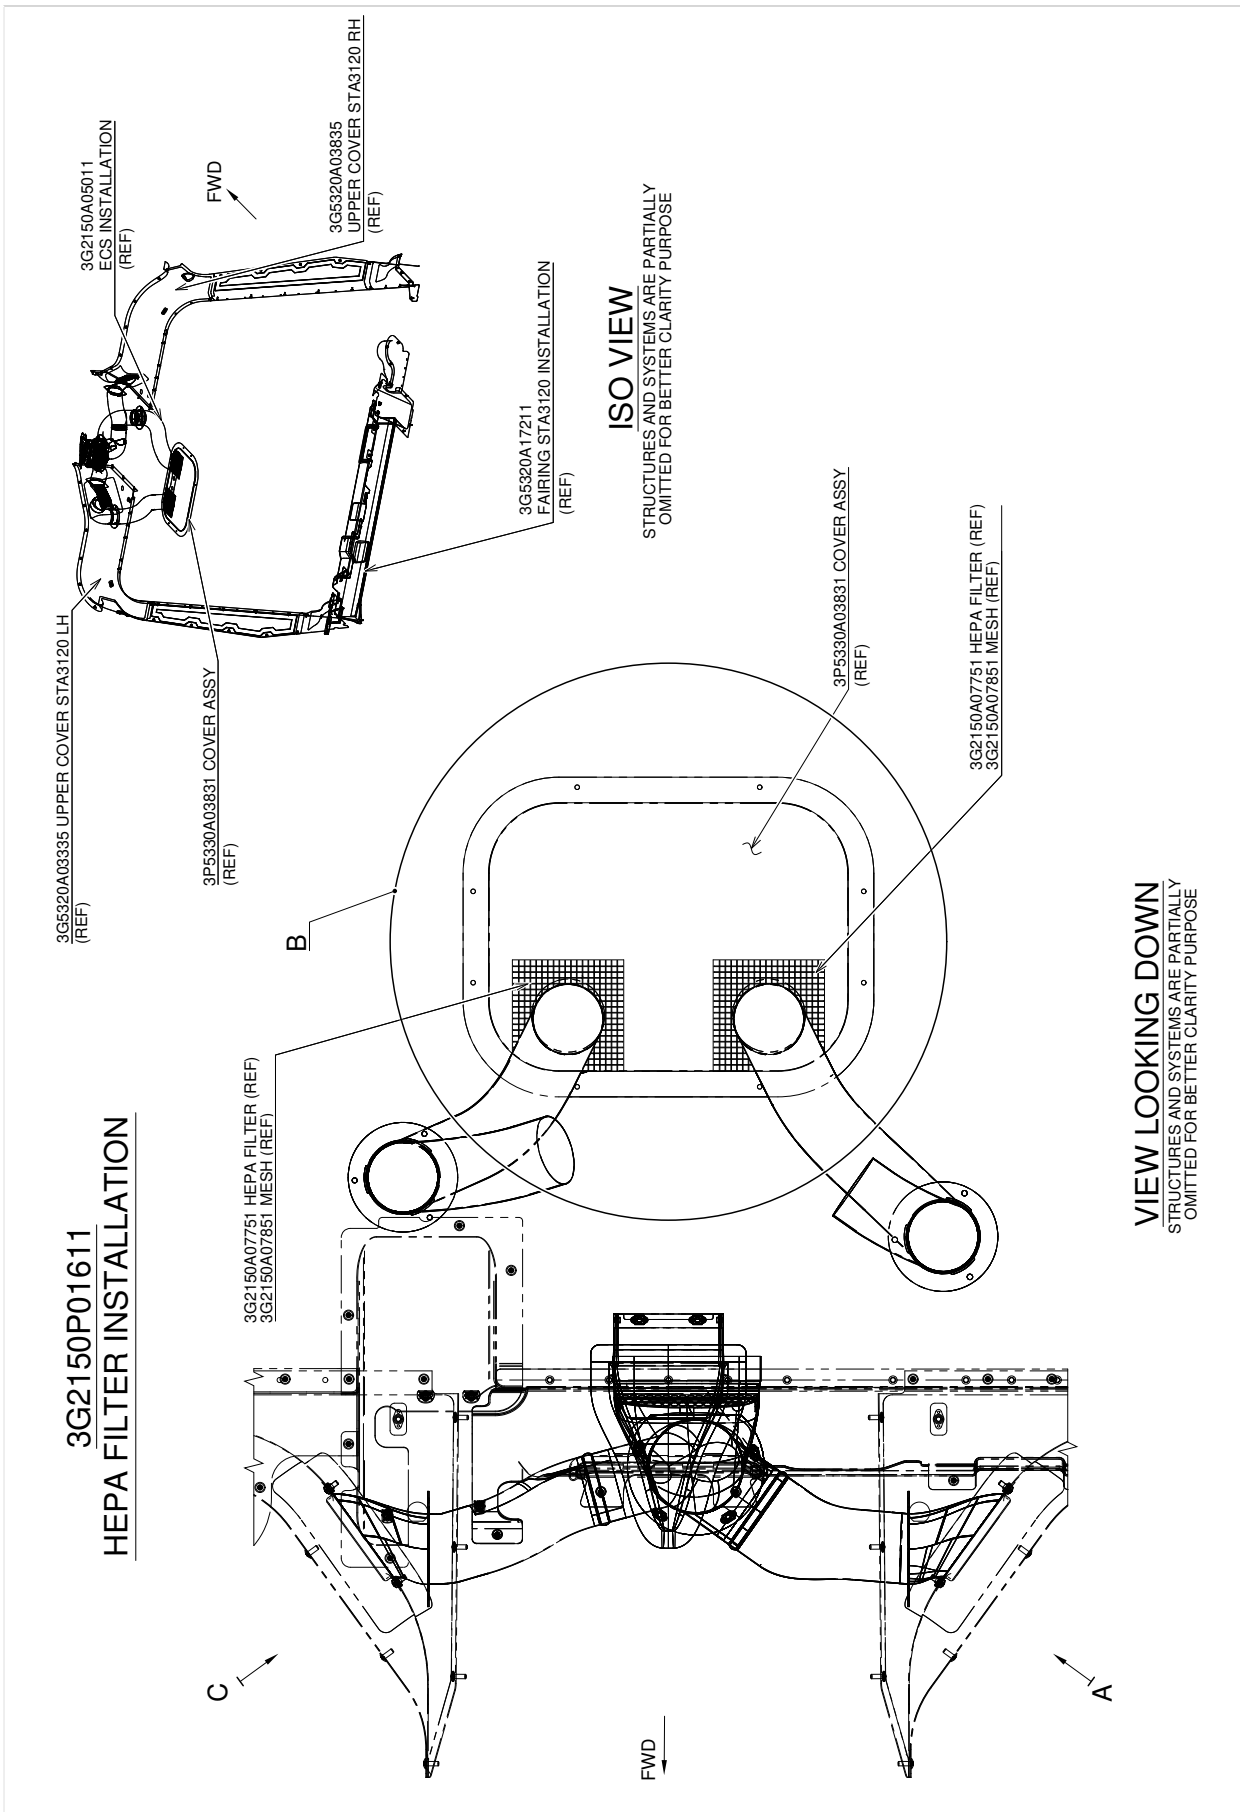
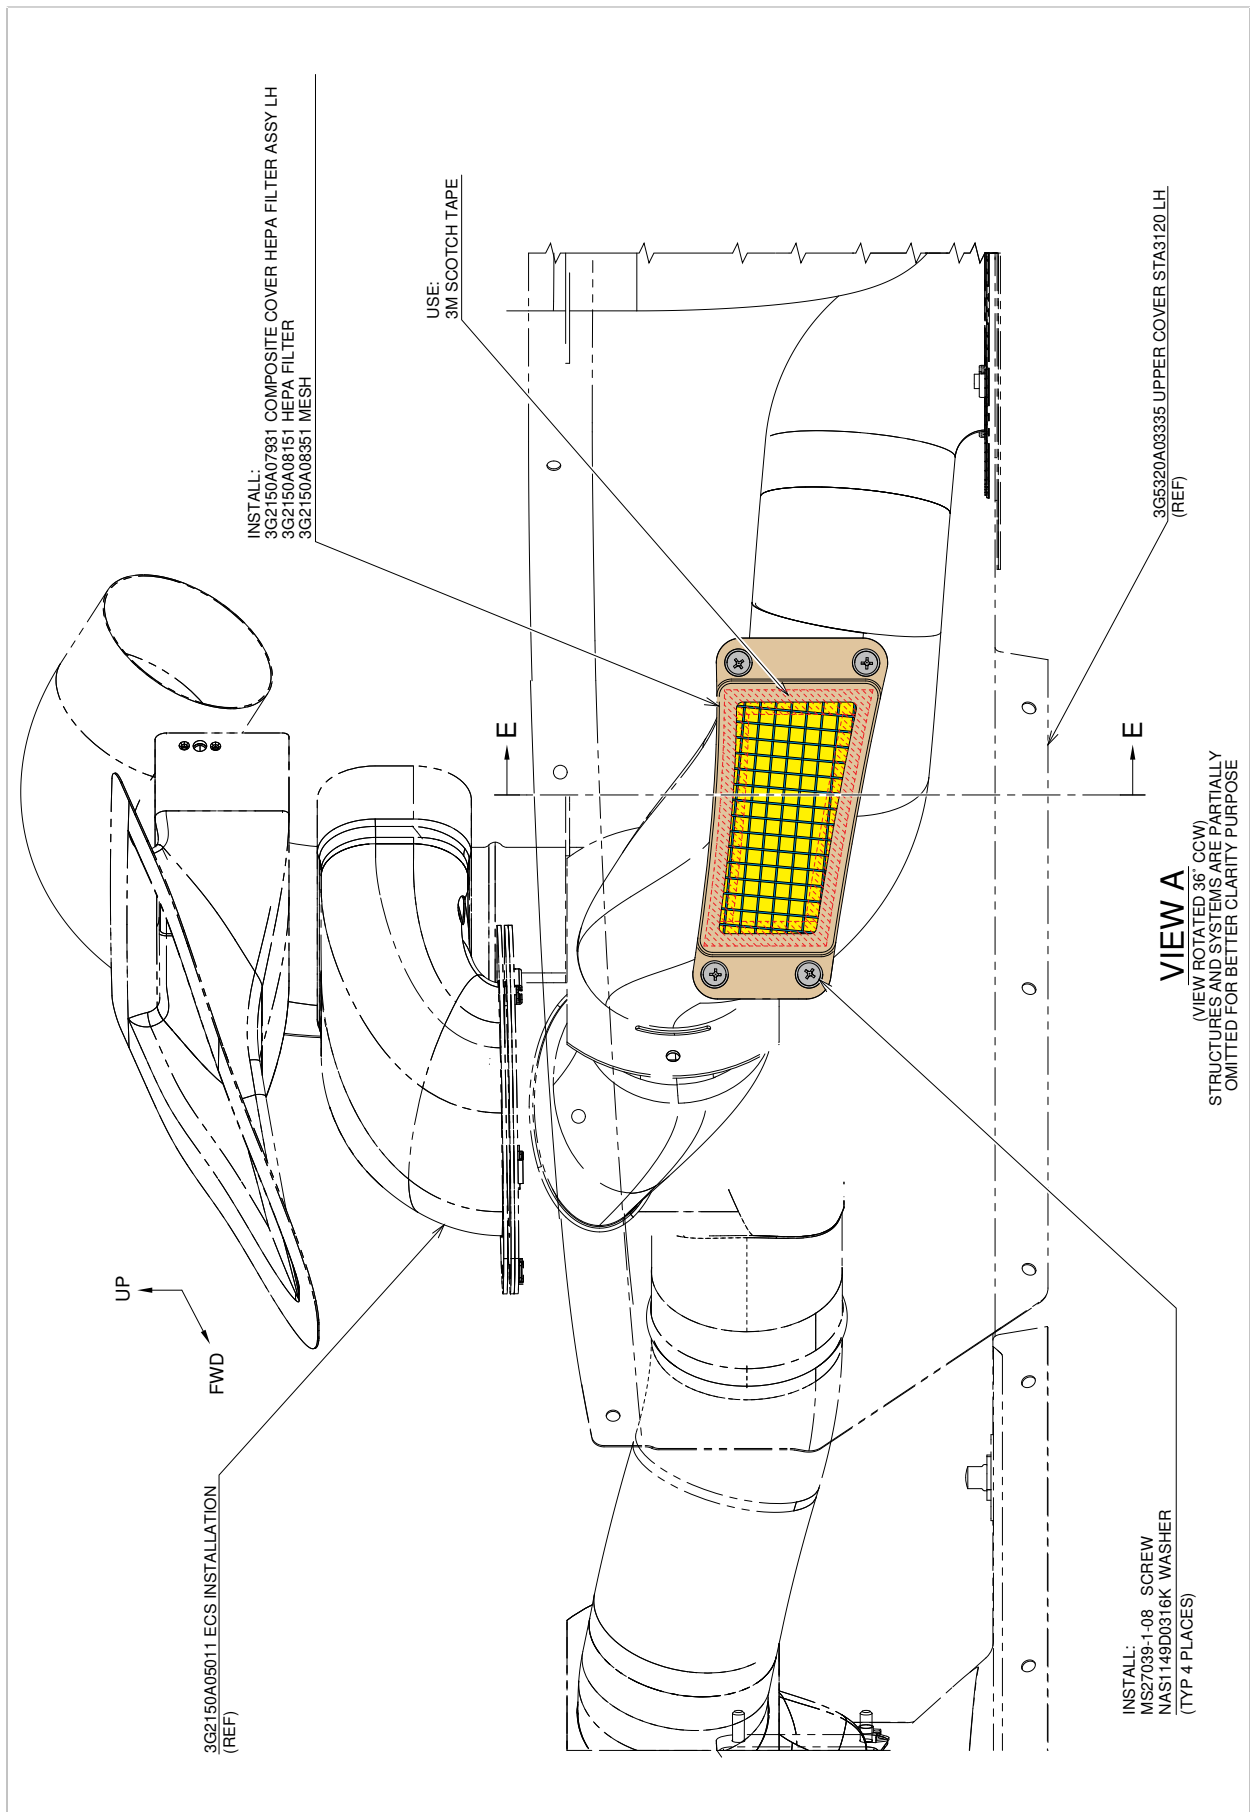
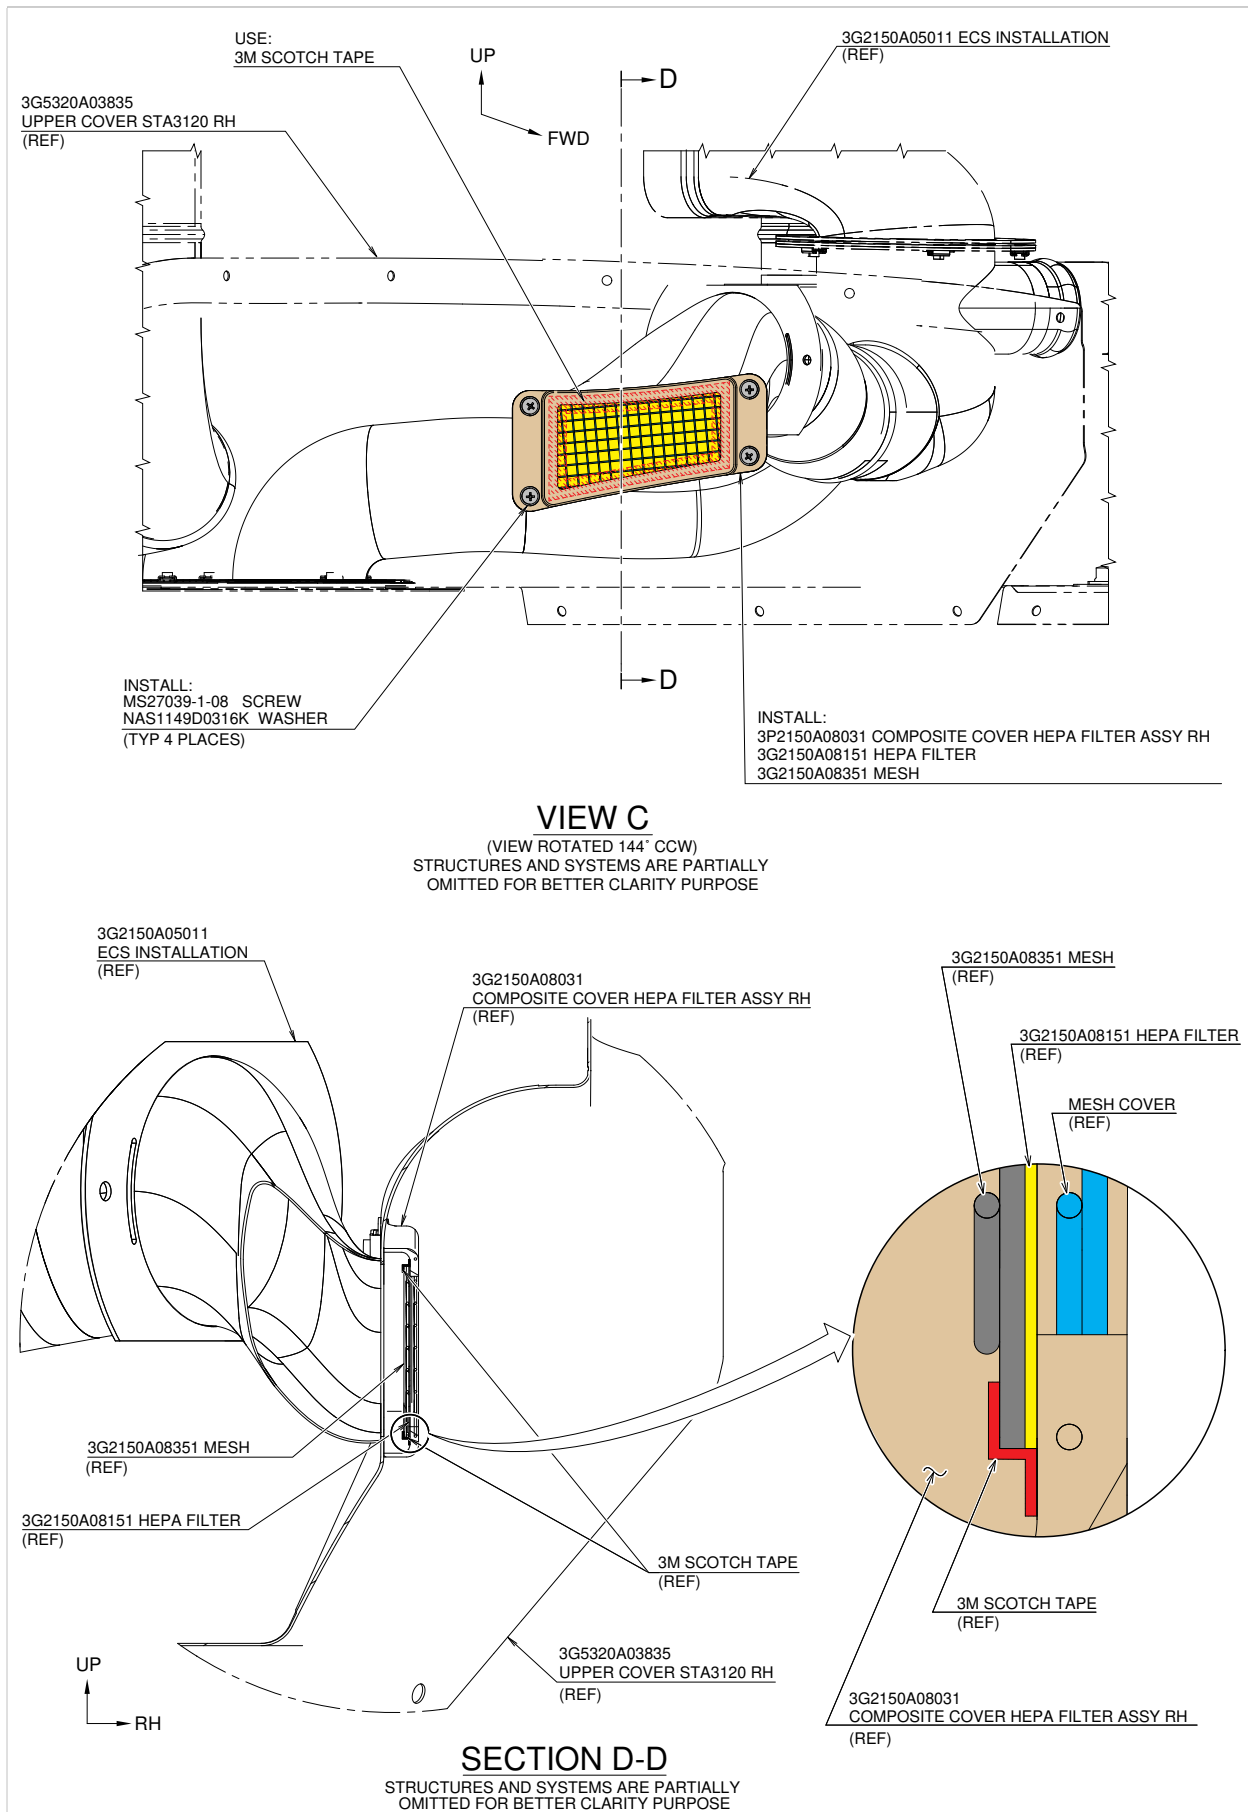
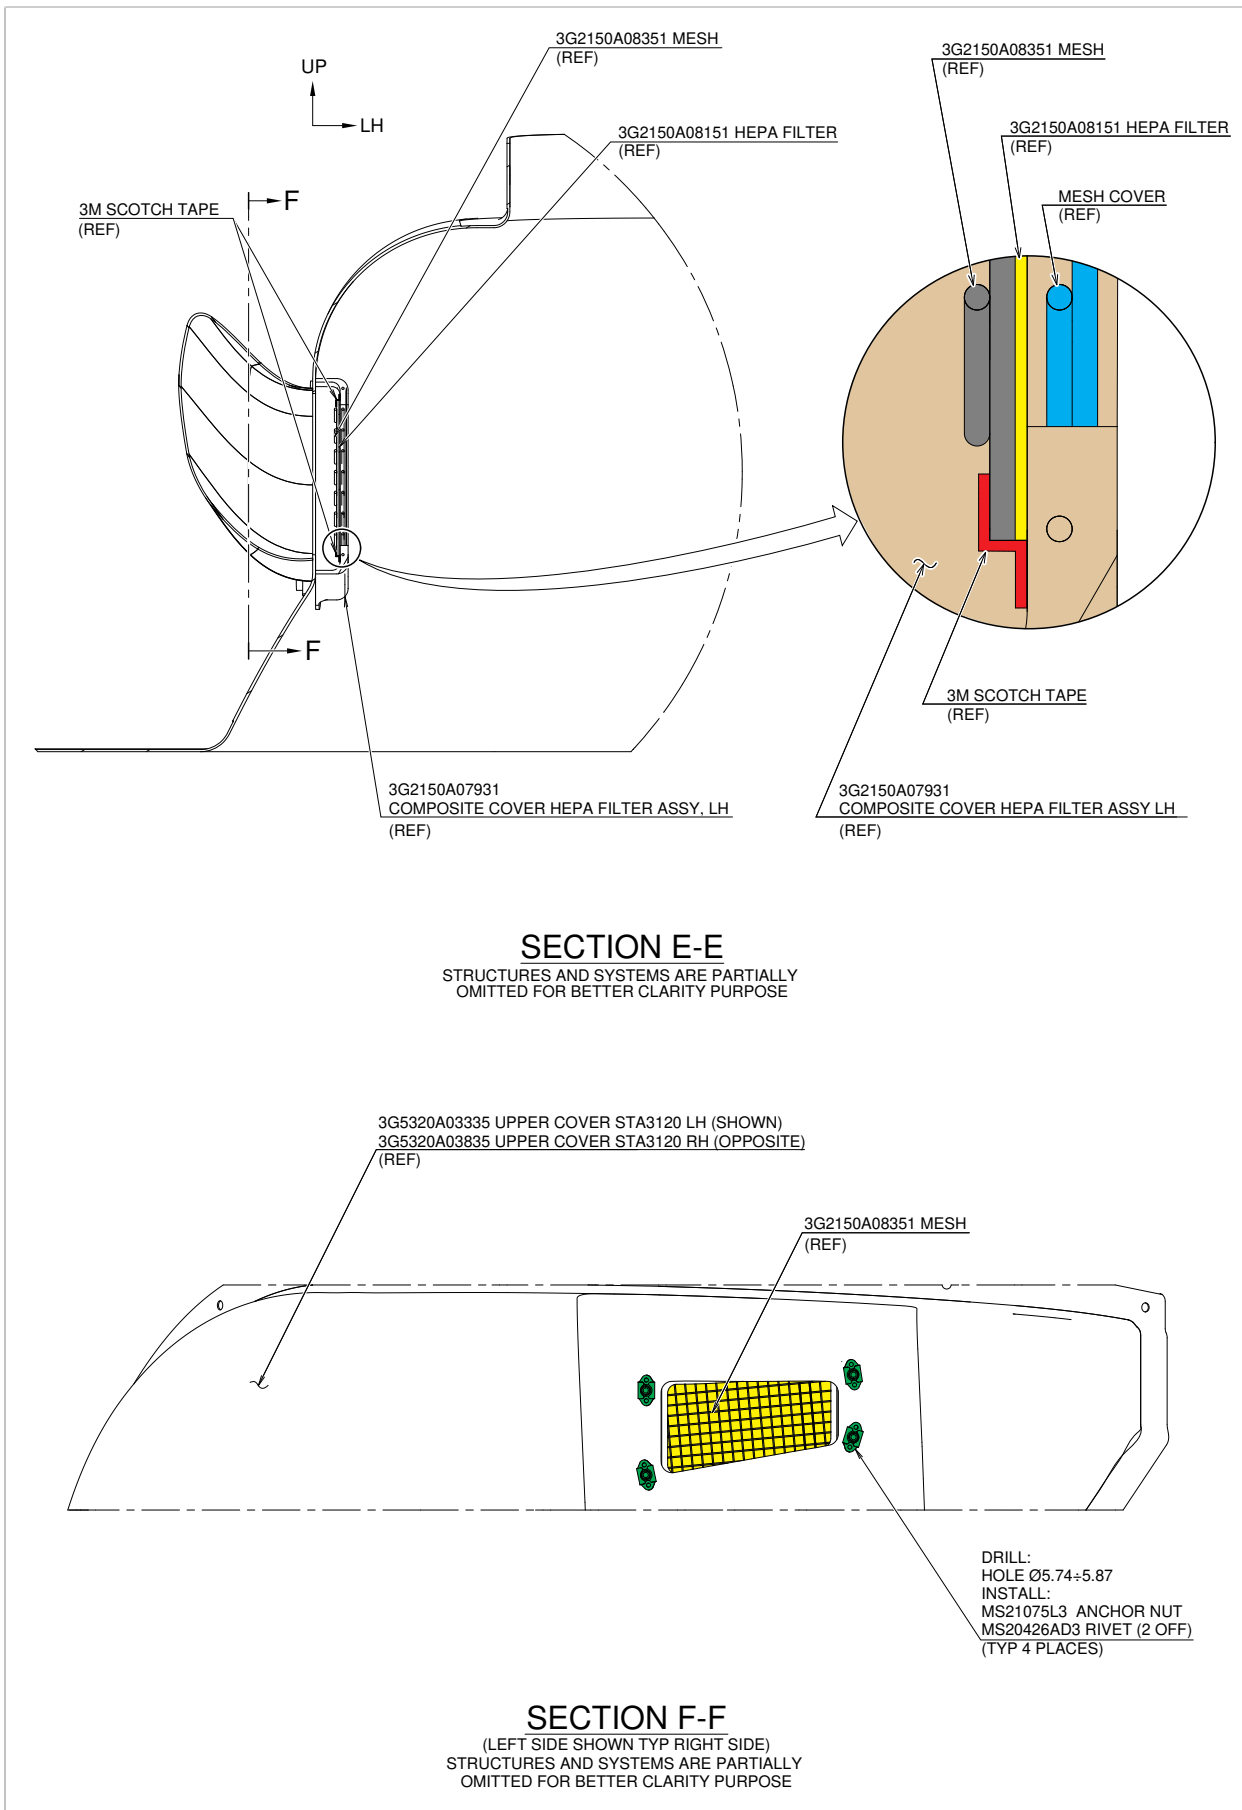

Figure 1
Figure 2
Figure 4
Figure 5
6. With reference to Figures 1 thru 5, gain access to the area affected by the installation and perform ECS HEPA filter installation P/N 3G2150P01611 as described in the following procedure:
- 6.1 With reference to Figure 1, remove the cover assy P/N 3P5330A03831.
- 6.5 With reference to Figure 1, re-install the cover assy P/N 3P5330A03831 by means of previously removed fixing hardware.
- 6.6 With reference to Figure 2 and Figure 5 section E-E, install HEPA filter P/N 3G2150A08151 and mesh P/N 3G2150A08351 by means of 3M scotch tape n°363 (C260) as required, on the internal side of the composite cover HEPA filter assy LH P/N 3G2150A07931.
- 6.7 With reference to Figure 4, install HEPA filter P/N 3G2150A08151 and mesh P/N 3G2150A08351 by means of 3M scotch tape n°363 (C260) as required, on the internal side of the composite cover HEPA filter assy RH P/N 3G2150A08031.
Perform following steps 6.8 thru 6.15 only if upper cover STA3120 LH P/N 3G5320A03335 (or alternative P/N) and upper cover STA3120 RH P/N 3G5320A03835 (or alternative P/N) are not equipped with anchor nuts (Ref. Figure 5 Section F-F). Otherwise skip to step 6.16.
- 6.8 With reference to Figure 1 and Figure 5 Section F-F, remove upper cover STA3120 LH P/N 3G5320A03335 and upper cover STA3120 RH P/N 3G5320A03835 from the helicopter.
- 6.9 With reference to Figure 2 and Figure 5 Section F-F, temporarily locate composite cover HEPA filter assy LH P/N 3G2150A07931 on the upper cover STA3120 LH P/N 3G5320A03335 and countermark the positions of existing screw holes.
- 6.10 With reference to Figure 5 Section F-F, drill n°4 holes \varnothing 5.74÷5.87 on the upper cover STA3120 LH in correspondence of previously marked positions.
- 6.11 With reference to Figure 5 Section F-F, install n°4 anchor nuts P/N MS21075L3 by means of n°8 rivets P/N MS20426AD3-4 on the upper cover STA3120 LH.
- 6.12 With reference to Figure 4 and Figure 5 Section F-F, temporarily locate composite cover HEPA filter assy RH P/N 3G2150A08031 on the upper cover STA3120 RH P/N 3G5320A03835 and countermark the positions of existing screw holes.
- 6.13 With reference to Figure 5 Section F-F, drill n°4 holes \varnothing 5.74÷5.87 on the upper cover STA3120 RH in correspondence of previously marked positions.
- 6.14 With reference to Figure 5 Section F-F, install n°4 anchor nuts P/N MS21075L3 by means of n°8 rivets P/N MS20426AD3-4 on the upper cover STA3120 RH.
- 6.15 With reference to Figure 1 and Figure 5 Section F-F, re-install upper cover STA3120 LH P/N 3G5320A03335 and upper cover STA3120 RH P/N 3G5320A03835 on the helicopter by means of previously removed fixing hardware.
- 6.16 With reference to Figure 2 View A, if necessary remove existing cover from the upper cover STA3120 LH P/N 3G5320A03335 (or alternative P/N) and install composite cover HEPA filter assy LH P/N 3G2150A07931 by means of n°4 screws P/N MS27039-1-08 and n°4 washers P/N NAS1149D0316K.
- 6.17 With reference to Figure 4 View C, if necessary remove existing cover from the upper cover STA3120 RH P/N 3G5320A03835 (or alternative P/N) and install composite cover HEPA filter assy RH P/N 3G2150A08031 by means of n°4 screws P/N MS27039-1-08 and n°4 washers P/N NAS1149D0316K.